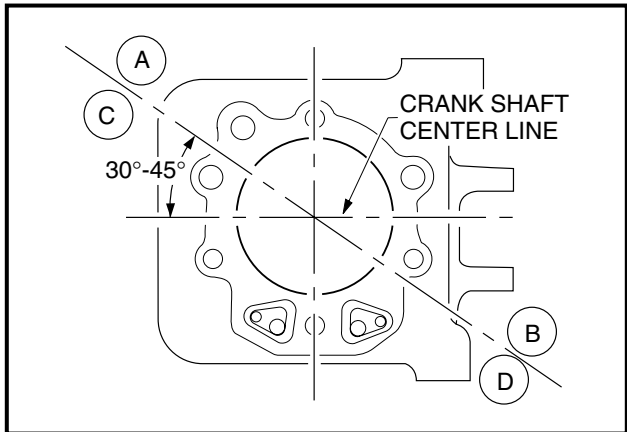

Figure 2-92 Position Piston Ring Gaps
- (A) Top Ring Gap
- (B) Second Ring Gap
- (C) Upper Side Rail Gap installed in the lowest ring groove
- (D) Lower Side Rail Gap installed in the lowest ring groove
4. Compress the rings on the piston and finish sliding piston into the cylinder (**Figure 2-92, Page 2-40**).